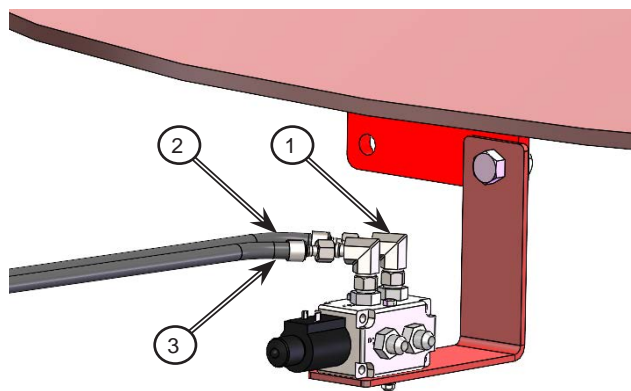

Figure 1.2: Connect the hydraulic hoses
4. Install the hydraulic elbow fittings (1) onto the  $\frac{3}{8}$ " x 76" (2) and  $\frac{3}{8}$ " x 68" (3) hydraulic hoses and fasten them to the top ports on the ESV, as shown in *Figure 1.2*.